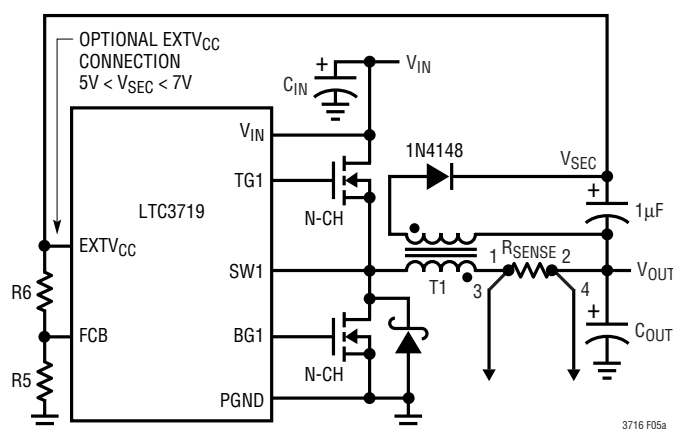
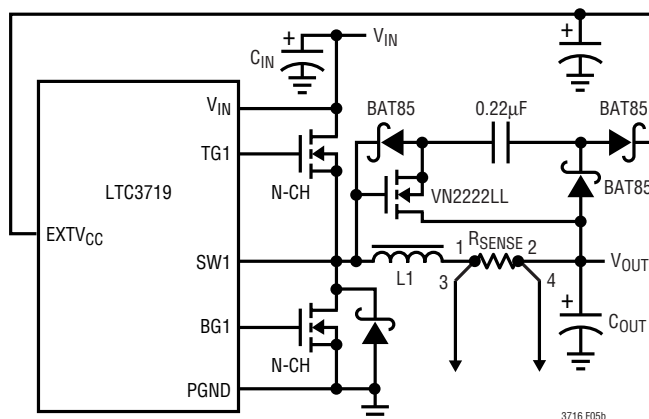

Figure 5a. Secondary Output Loop with $EXTV_{CC}$ Connection
Figure 5b. Capacitive Charge Pump for $EXTV_{CC}$
4.7V but less than 7V. This can be done with either the inductive boost winding as shown in Figure 5a or the capacitive charge pump shown in Figure 5b. The charge pump has the advantage of simple magnetics.
The secondary output voltage V_{SEC} is normally set as shown in Figure 5a by the turns ratio N of the transformer:
where $R5$ and $R6$ are shown in Figure 5a.